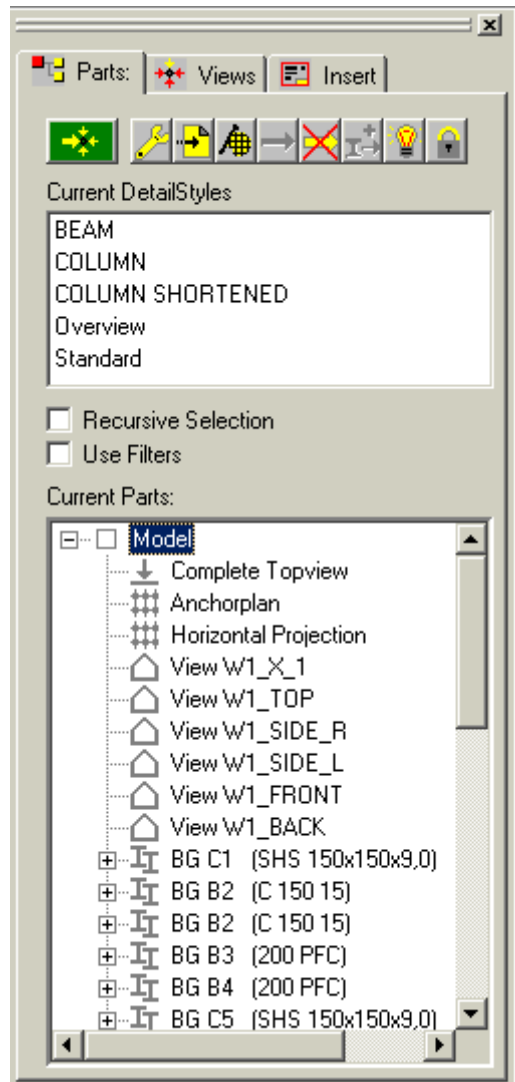

Fig. 16
1. To open the detail centre you click on the 2D button and a series of windows will open on the left side of your drawing with icon buttons attached. Fig. 16.
1. Fig. 16 above has nine views in “*Current Parts*” that have been created from the Work frames as mentioned in WORK FRAMES item 1. They are “*Complete Topview*” down to “*View W1_BACK*”. The rest of the items in that column refer to the individual members that have been grouped. Above in the “*Current DetailStyles*” are the detail styles called “*BEAM*” “*COLUMN*” etc.